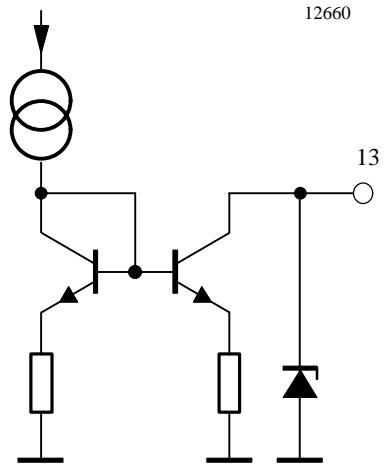

Figure 13. Pin 13 SW_{out}
- 1) Measured at Pin 9, (12) referred to 330 Ω
- 2) Protected by a Z-diode, see figure 13